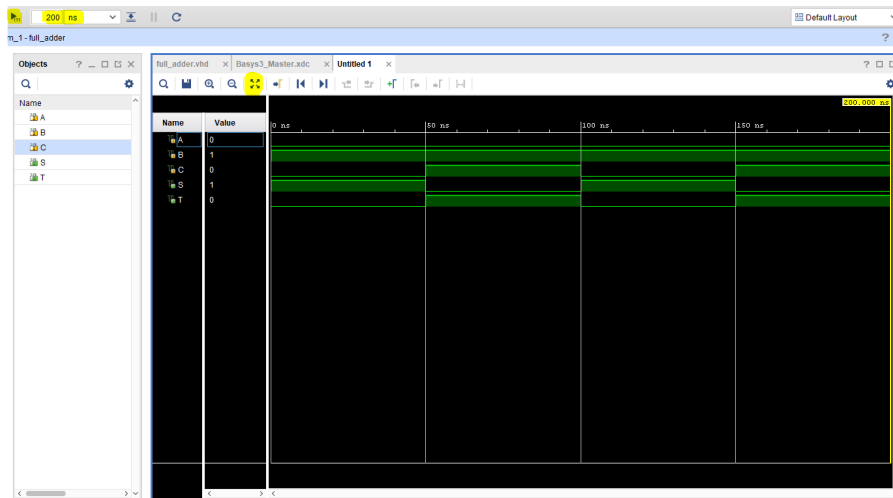

Figure 19 Full adder simulation run: 200 ns
4. To start the simulation enter the value **200 ns** and press the **Play** button. The simulation should run for 200 ns and present the waveform shown in Figure 19.